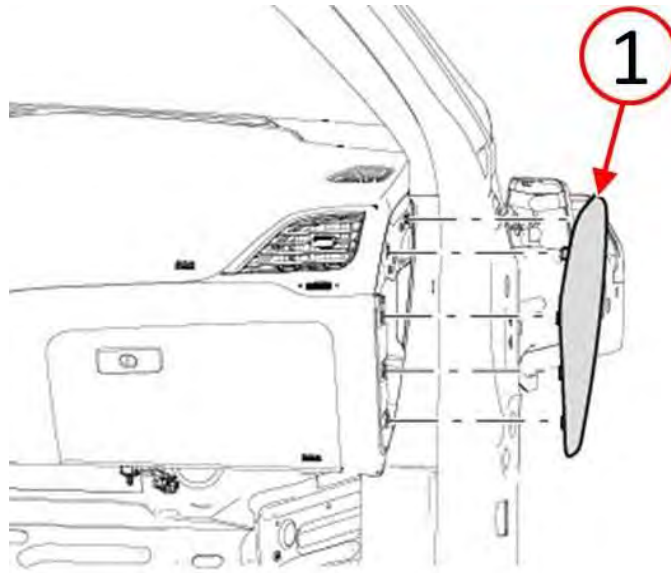

Fig. 18 Install Right Side Instrument Panel End Cap
21. Position the instrument panel end cap (1) over retaining slots and firmly snap into place (Fig. 18).